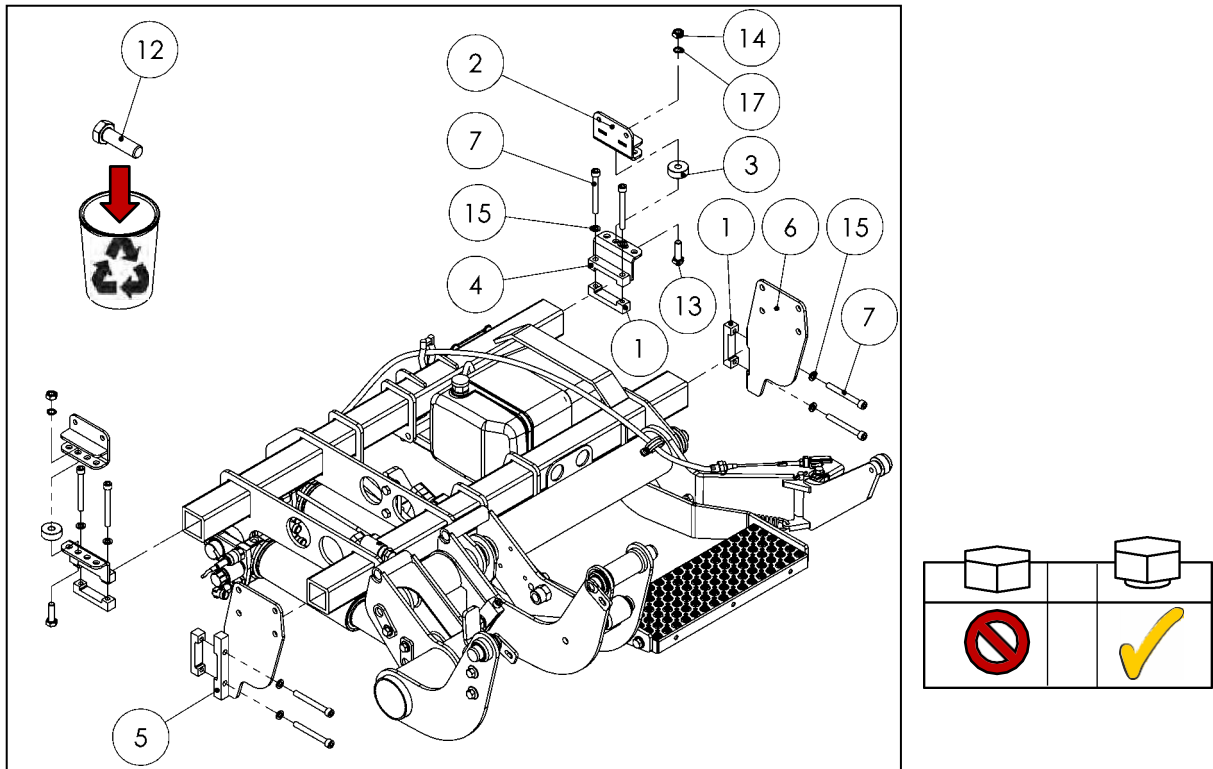
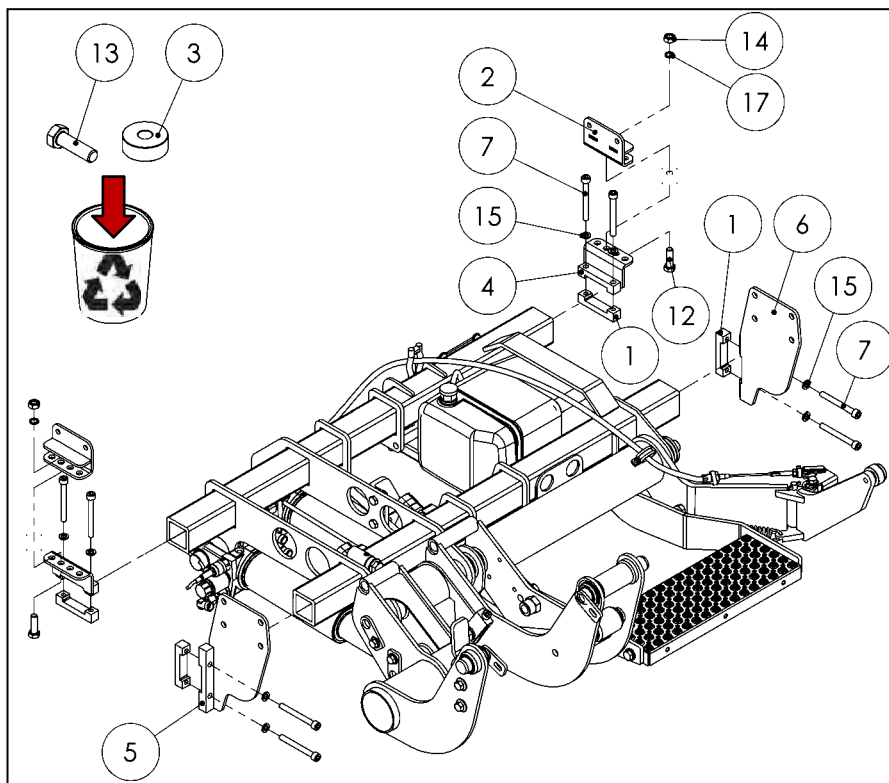

Figure 11
Figure 13
- Pre-install the installation adapters on the liftgate's lifting gear as shown in Fig. 11 or Fig. 13, tightening the fittings until hand-tight.
IMPORTANT: Depending on the vehicle, choose either the **3.5-ton** (see Fig. 11) or **5-ton** (see Fig. 13) installation version.